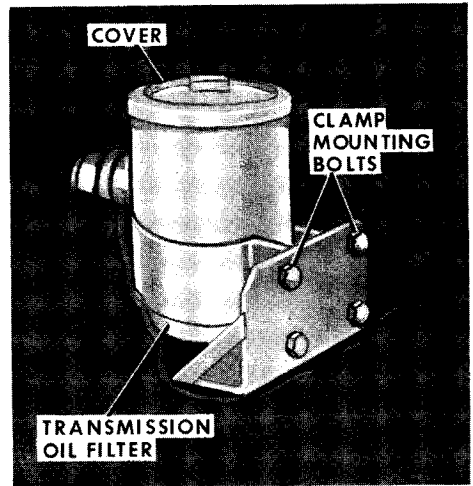

Figure 12
4. Remove the four clamp bolts and nuts, Figure 12. Filter body can be positioned for easy draining and cleaning.